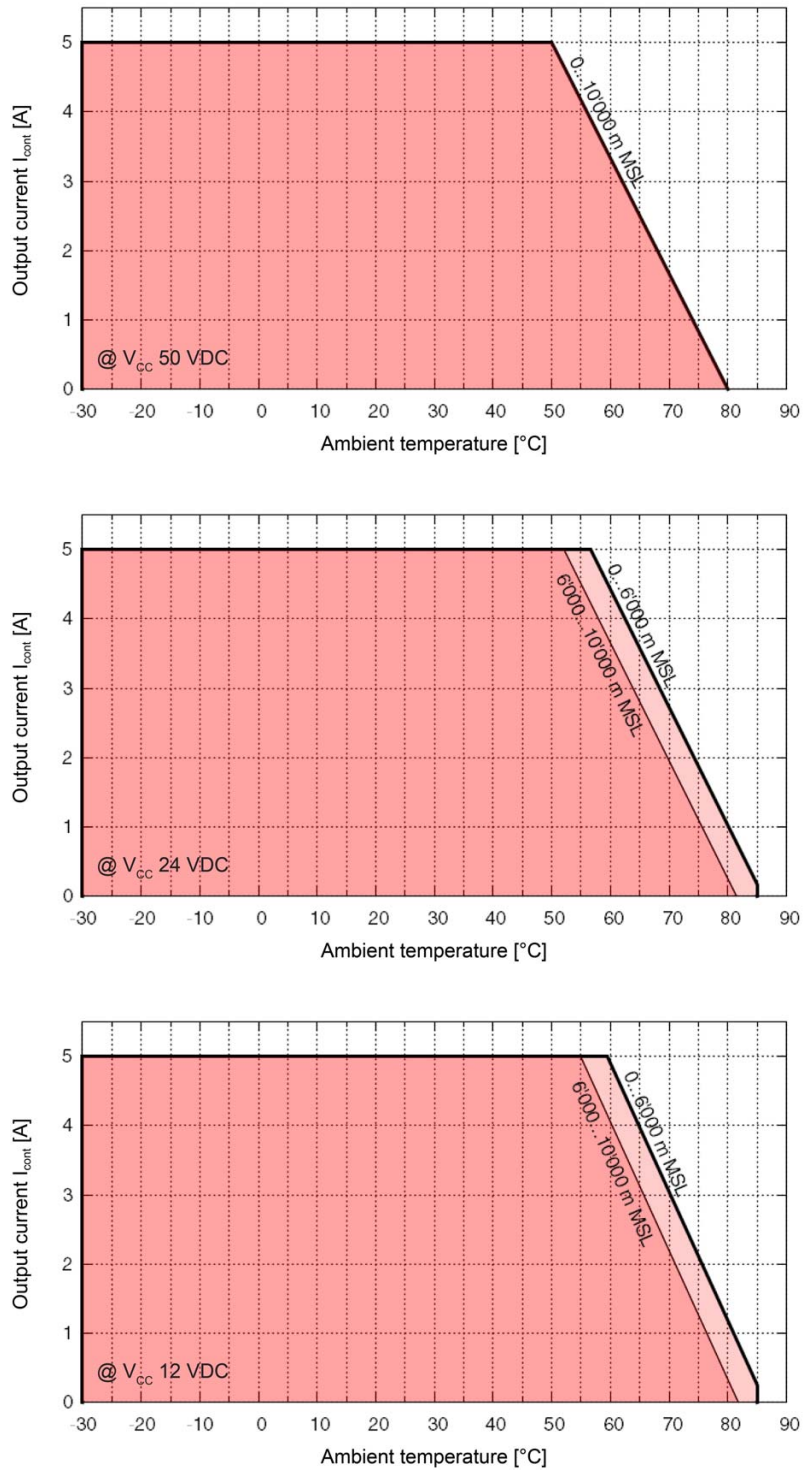

Figure 2-2 Derating of output current
Extended range ¹⁾	+50...+80 °C; Derating: –0.167 A/°C (→Figure 2-2)
- 4) Derating further increases with an inserted extension card. For the actual value, consult →Figure 2-2 and shift the graph horizontally to the left by the specified value.